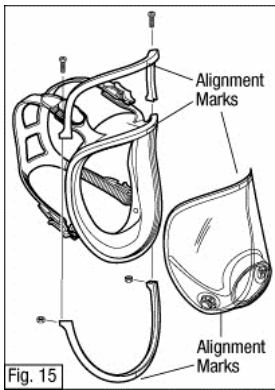

Fig. 22
2. Remove the (2) Phillips screws from the lens/face seal frame. Pull the frame top and frame bottom away from face seal.
4. Place new lens and face seal together aligning marks at top and bottom. Position top and bottom frame, again aligning marks top and bottom. (Fig. 22) Install and securely tighten screws. Make certain alignment marks are properly aligned top and bottom with all components.
2. Position bottom frame, aligning center vertical mark, and press in place. (Fig. 22)